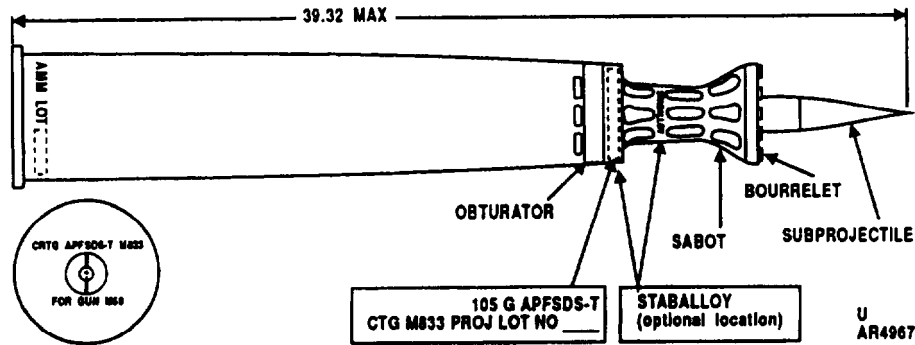

Figure 1. Cartridge, 105mm, M833, APFSDS-T.
(1) The 105mm, M833, APFSDS-T, Cartridge (fig. 1) is an armor-piercing antitank cartridge and is intended for use on 105mm guns M68 cannon, against armored targets.